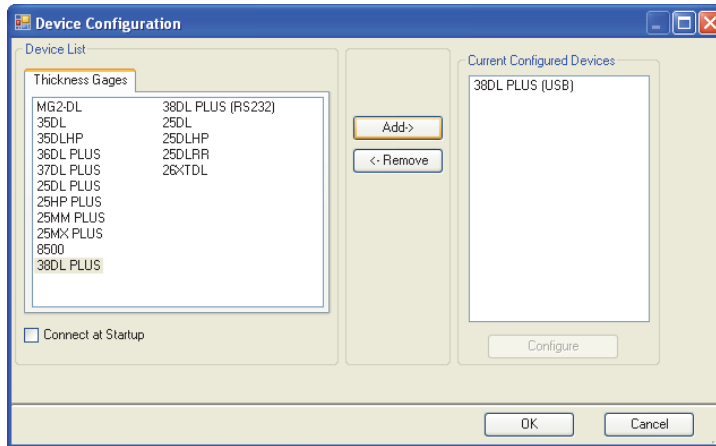

Figure 14-10 The Device Configuration dialog box
- b) In the **Device Configuration** dialog box (see Figure 14-10 on page 277):
- (1) In the **Device List**, select 39DL PLUS, and then click **Add**. 39DL PLUS (USB) appears in the **Current Configured Devices** list.
- (2) Select the **Connect at Startup** check box so that GaugeView automatically attempts to connect to the 39DL PLUS when it starts.
- (3) Click **OK**.